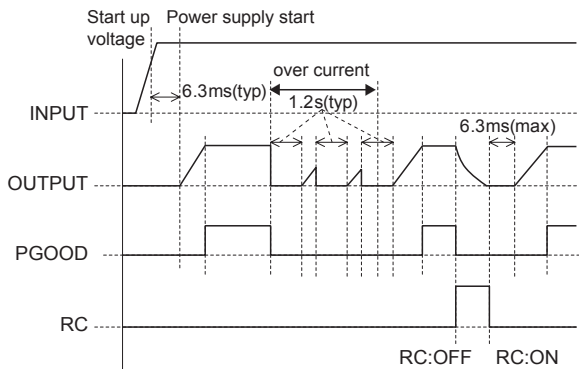

Fig.3.12 Sequence chart of BRFS/BRDS
- Fig.3.12 is a sequence chart of each function of BRFS/BRDS.